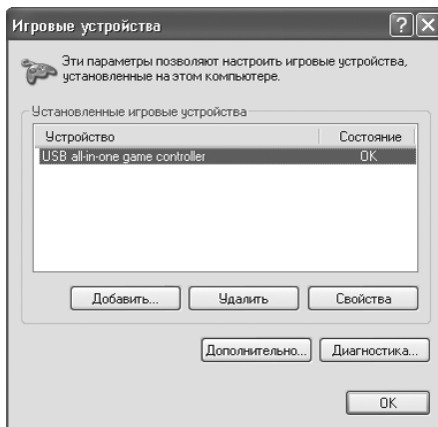

Fig. 4
- Install the device on an even surface on its suction caps ⑩.
- Connect the device to an available USB port of the PC via the built-in USB cable ⑧. When connecting to your PC, the device is automatically detected as a game controller and is fully ready for use. However, for vibration feedback activation it is necessary to install drivers.
- After connecting the controller to your PC, Game Controllers window will automatically open up on your desktop, the driver will detect the device as USB all-in-one game controller (Fig. 4).